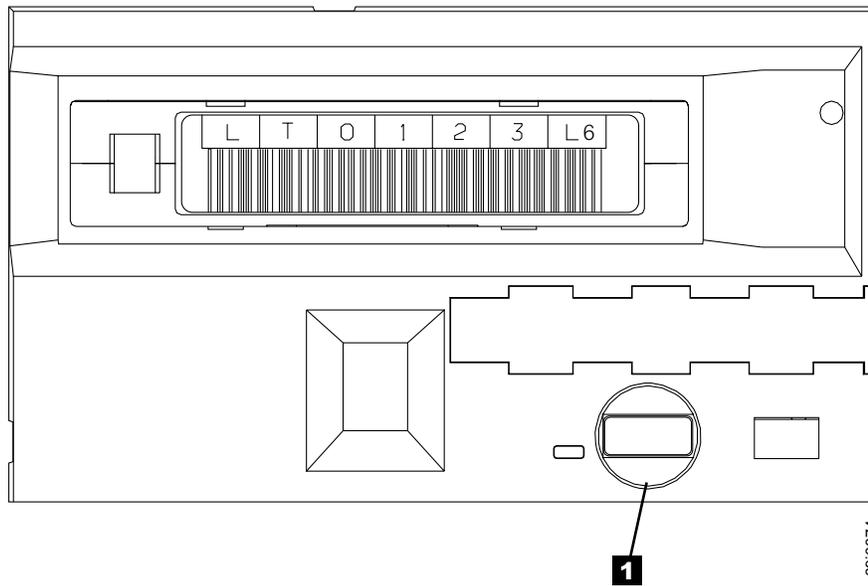

Figure 35. Removing a cartridge from an Ultrium tape drive
- a. Press and release the unload button (1 in Figure 35).